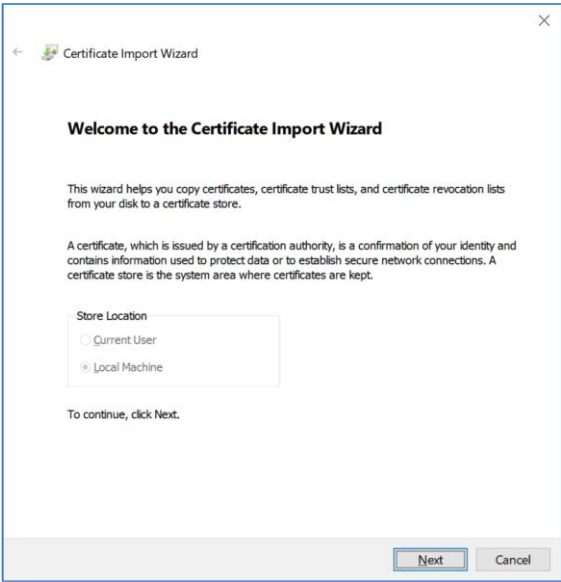

Figure 339: Windows Certificate Import Wizard
4. Click on the Import... button to start the Certificate Import Wizard. The Wizard is shown in Figure 339.